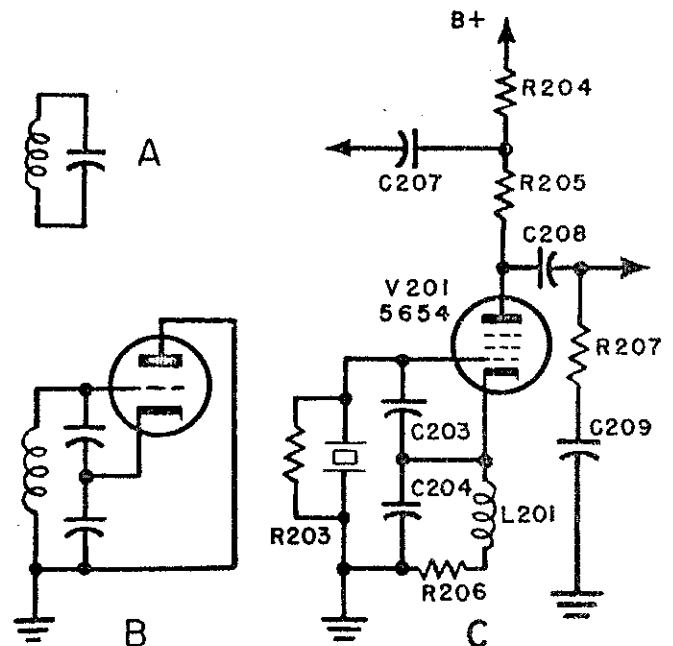

Fig. 2-1 Oscillator, Basic and Simplified Schematic Circuits
(1) In the basic Colpitt's oscillator circuit (see Fig. 2-1 A and B) oscillations are obtained by connecting the grid and plate of a vacuum tube to opposite ends of a resonant circuit. The cathode is connected to an intermediate point by using two capacitors in series. When positive feedback occurs in suitable phase, the tube gain balances the resonant circuit losses and continuous oscillations result. Energy to maintain the r-f oscillations is supplied by the flow of d-c power from the plate supply.
(2) In the actual oscillator circuit of the transmitter other parts are necessary. For greater frequency stability a quartz crystal is used as the fundamental resonant element (see Fig. 2-1 C), but the principle of operation re-